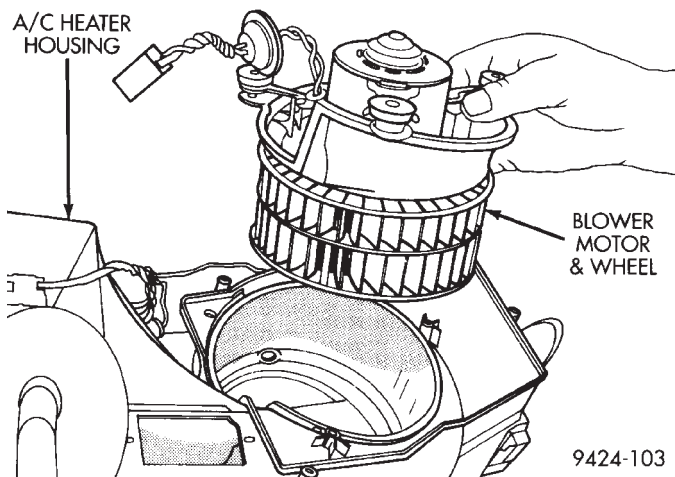

**Fig. 65 Blower Motor Removal**
(10) Remove screws at blower motor mounts. Remove motor (Fig. 65).